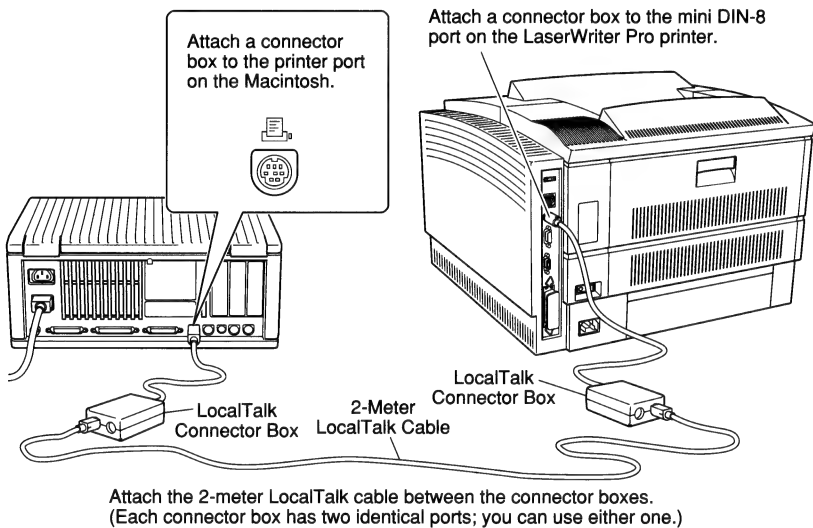

Figure 1 LocalTalk Connection
2. Connect a LocalTalk connector box to the mini DIN-8 port on the LaserWriter Pro (see Figure 1).
3. Connect a LocalTalk connector box to the printer port on the Macintosh computer (see Figure 1).
4. Connect the two connector boxes with a LocalTalk cable (see Figure 1).